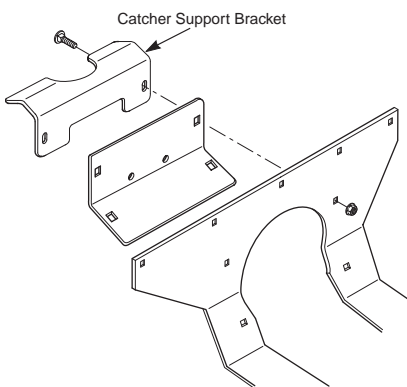

FIGURE 3-4
13. Install the catcher support bracket onto the rear of the machine and secure with 5/16-18 x 1" carriage bolts (p/n 04003-04) and 5/16-18 serrated flange nuts (p/n 04019-03) See Figure 3-4.